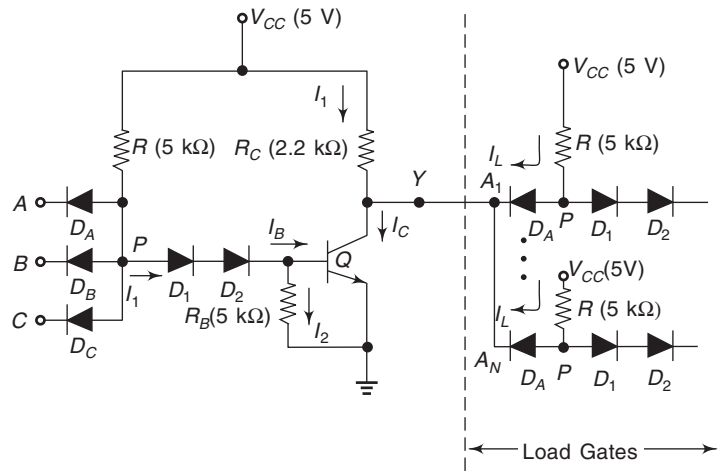

Fig. 9.45
29. Explain the operation of the DTL gate in Fig. 9.45. What logic function does it perform?